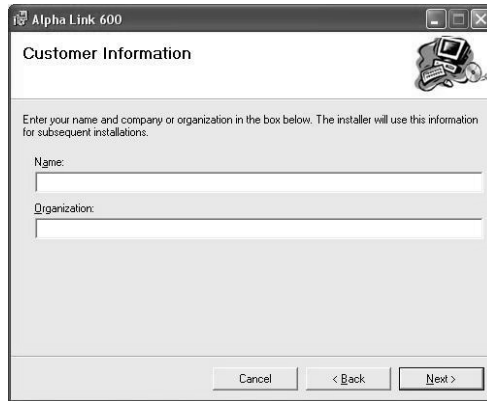

Figure 2 : Customer information
3. The next screen (Figure 2) gives you the option of entering your name & your organization's name, or leaving them blank. Click **Next** to continue.